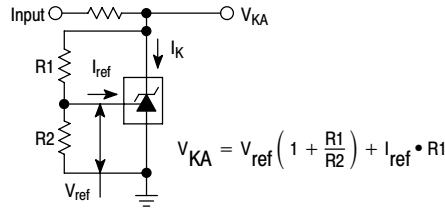

Figure 2. Test Circuit for $V_{KA} > V_{ref}$
(refer to Figure 2) the total dynamic impedance of the circuit is defined as: |Z_{KA}'| ≈ |Z_{KA}| (1 + $\frac{R1}{R2}$)
6. The dynamic impedance Z_{KA} is defined as $|Z_{KA}| = \frac{\Delta V_{KA}}{\Delta I_K}$. When the device is programmed with two external resistors, R1 and R2, (refer to Figure 2) the total dynamic impedance of the circuit is defined as: $|Z_{KA}'| \approx |Z_{KA}| \left(1 + \frac{R1}{R2} \right)$